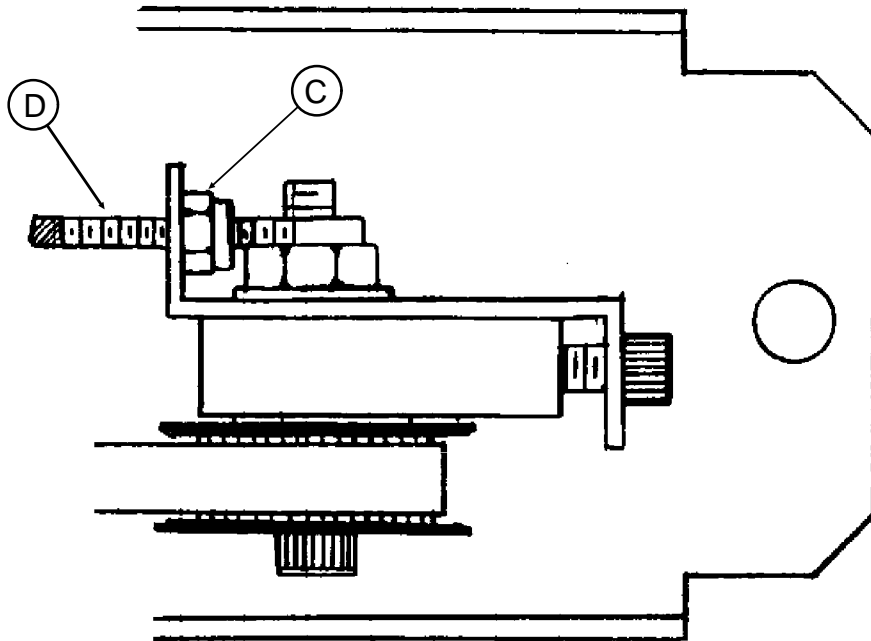

Figure 3
5. Remove the Lock Nut (Figure 3-C) from the Mounting Stud (Figure 3-D) on each end of the Cable.